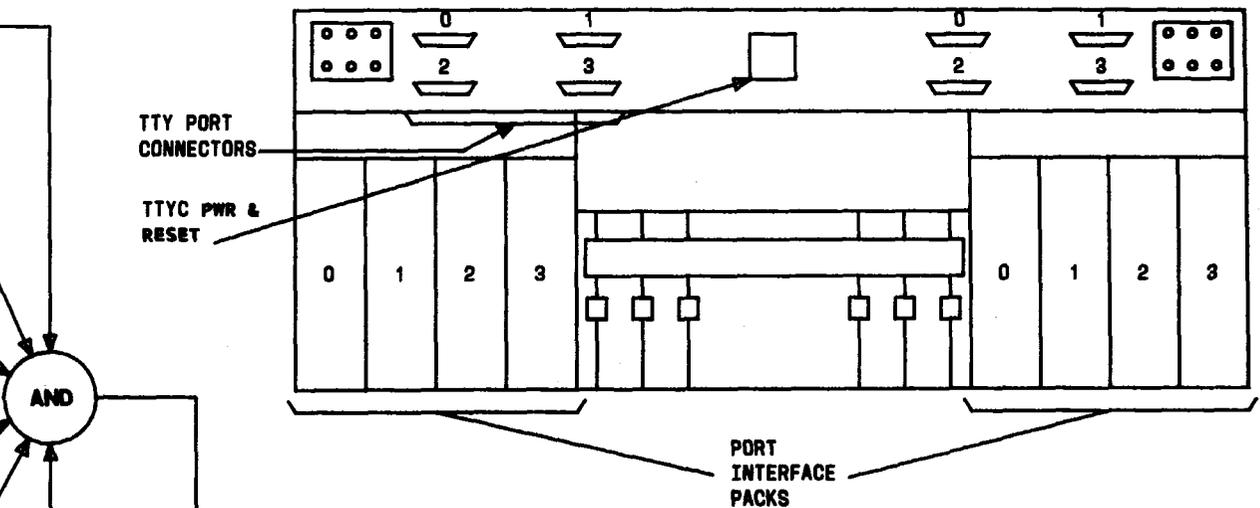

FIG. 1 - Teletypewriter Control Unit
- [7] At TTYC 0 and TTYC 1 depress TTYC PWR & RESET to restore power [FIG. 1]